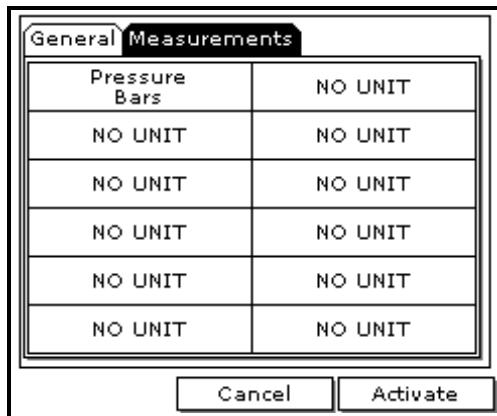

Figure 43: Log Measurements Window
2. Use the arrow keys to move back to the **General** tab and then move to the **Measurements** tab and press [ENTER]. A screen similar to Figure 43 appears.